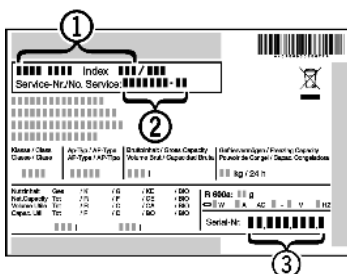

Fig. 21
- ▶ Read off the appliance name *Fig. 21 (1)*, service no. *Fig. 21 (2)* and serial no. *Fig. 21 (3)* from the model plate. The model plate can be found on the inside of the appliance on the left.